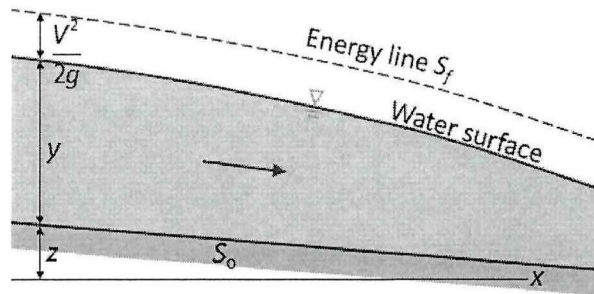

FIGURE Q4(d)
- (d) **FIGURE Q4(d)** illustrates schematic sketch of GVF. Using information provided in the figure, recommend equation for